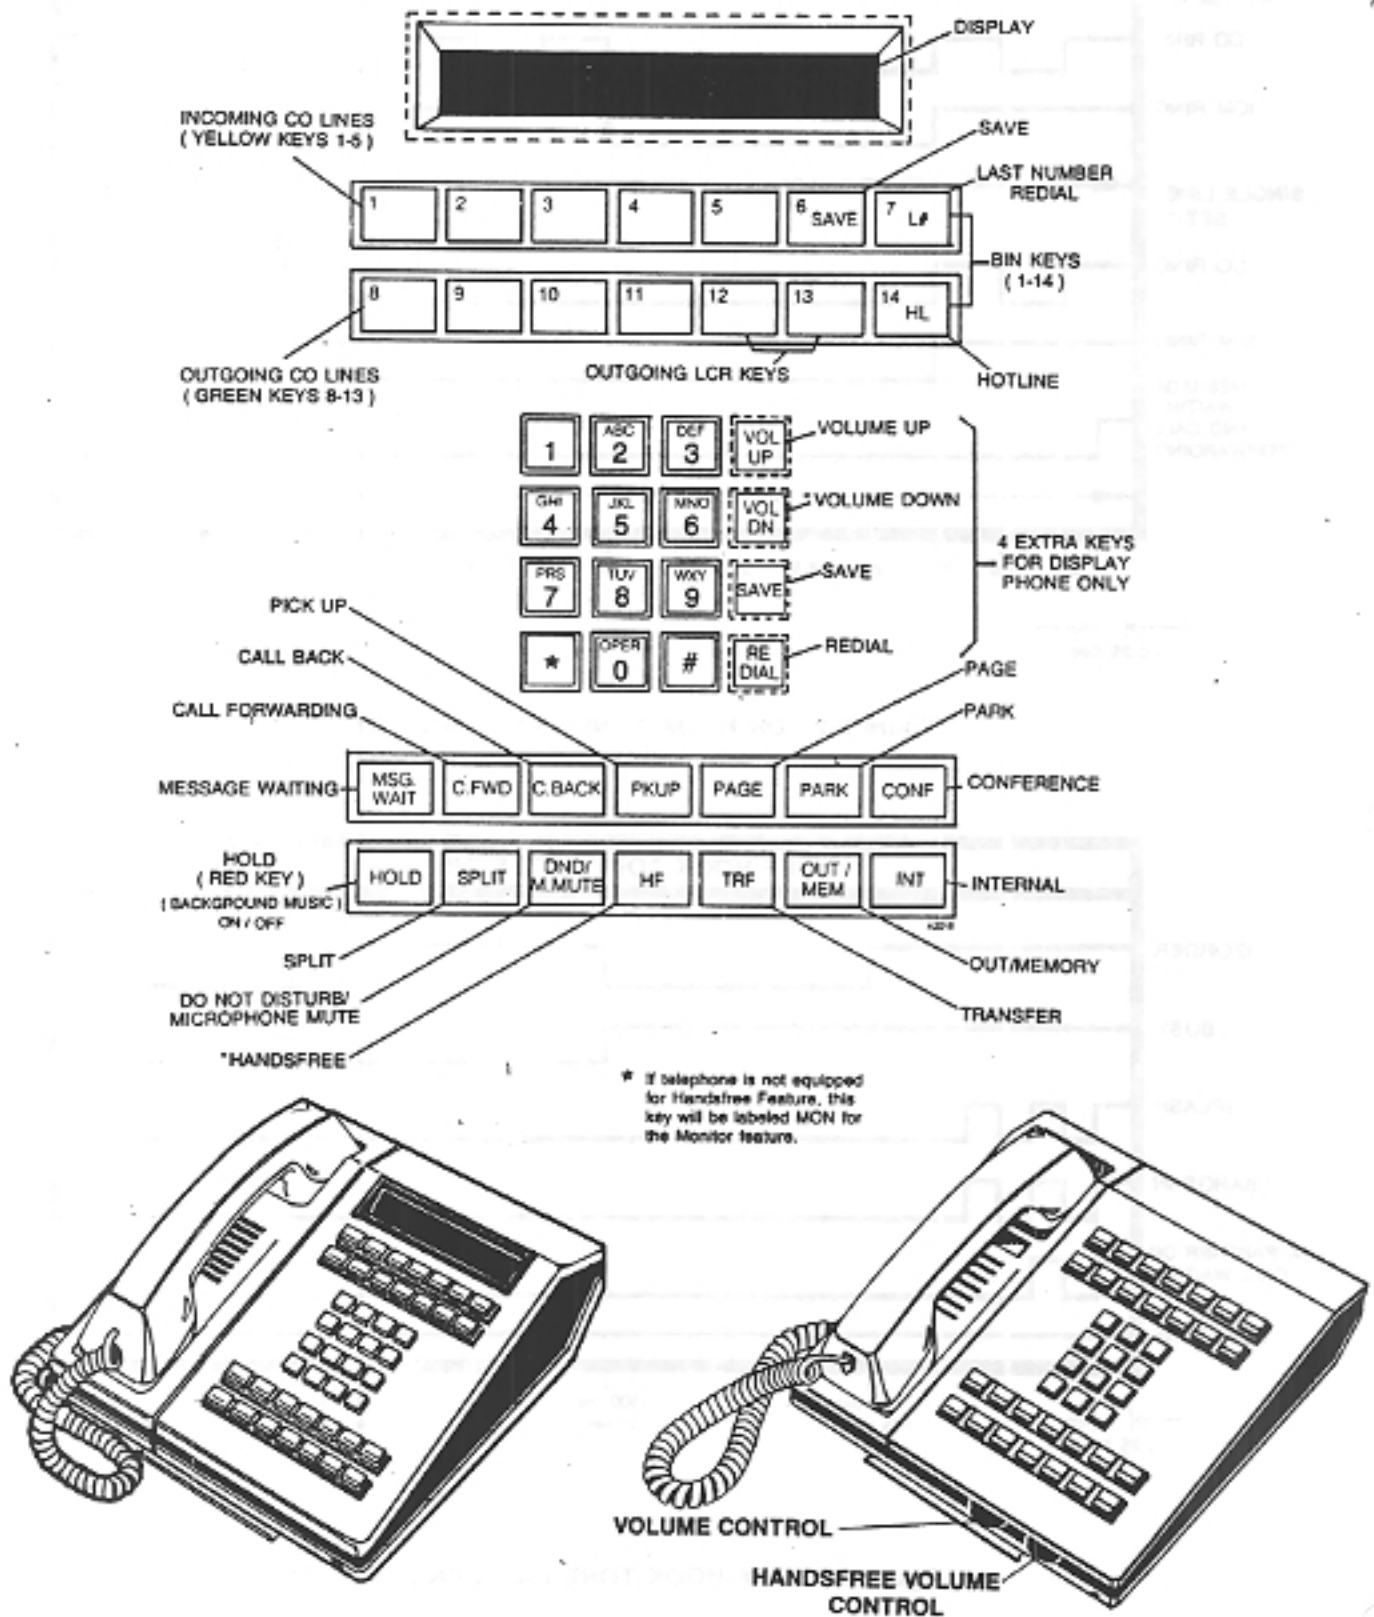

Figure 2-4 KEY LAYOUT, MULTIBUTTON KEY TELEPHONE ( ULTRACOM ), TCX-128
**2.03** The Multibutton Key Telephone is the primary extension instrument for the TCX-128 system. This telephone is available in two configurations, the Ultracom and the Meritor (Figures 2-4 and 2-5). Additionally, there are two models of Multibutton Key Telephones available. One model has a built-in speakerphone which allows Handsfree CO as well as Intercom calls. The other model does not have a built-in speakerphone; the Monitor feature replaces the Handsfree feature for CO calls.
**2.04** The Ultracom Multibutton Key Telephone key layout as shown in Figure 2-4 is divided into three sections. The top section contains two rows of keys which provide access to incoming and outgoing CO lines. Incoming CO line keys 1-5 are yellow; and outgoing CO line keys 8-13 are green. These keys may also be programmed for bin storage of frequently called extension numbers. The middle section contains the dial pad. The bottom section contains two rows of dedicated feature keys which provide access to extension and system features and special functions.
**2.06** The Display Multibutton Key Telephone (Figures 2-4 and 2-5) functions similarly to the standard Multibutton Key Telephone, described above, and also provides display features. (Refer to Table 2-1 for a complete list of display messages.)